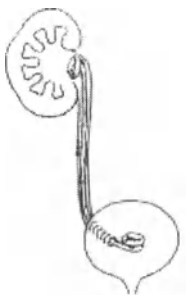

Fig. 5
7. Remove the wire guide, allowing the stent coil to re-form (Fig. 5).